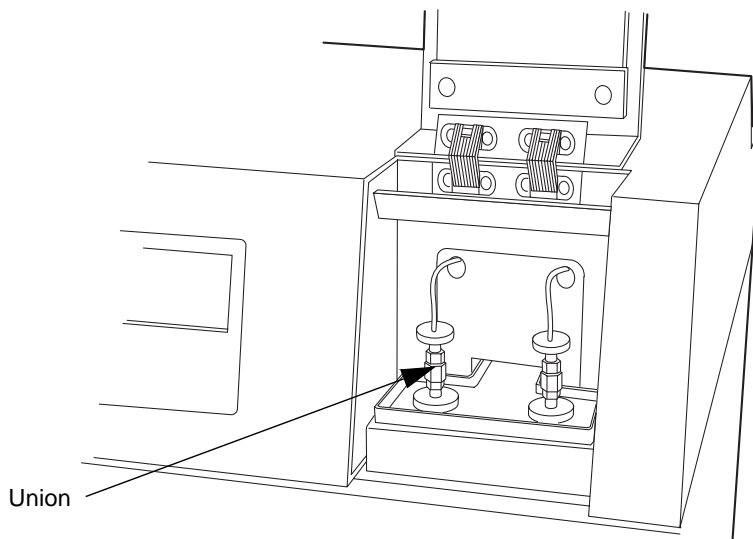

Figure 2-25 Install a Union in Place of the Reaction Column
1. Install a union in place of the reaction columns (see Figure 2-25).